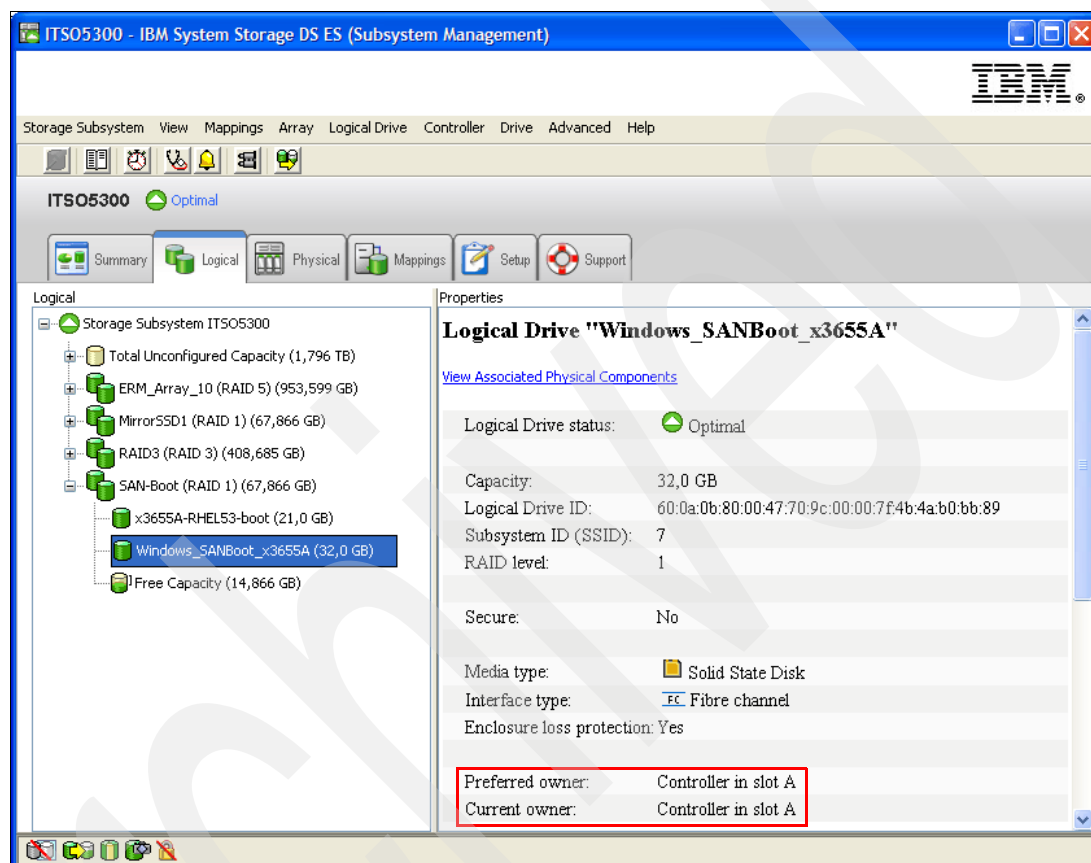

Figure 5-43 Check controller ownership
1. From the Storage Manager Subsystem Management window (Logical view), check which controller currently has the drive ownership of the boot disk for the server (Figure 5-43). In optimal condition, the preferred and current controller must be the same.